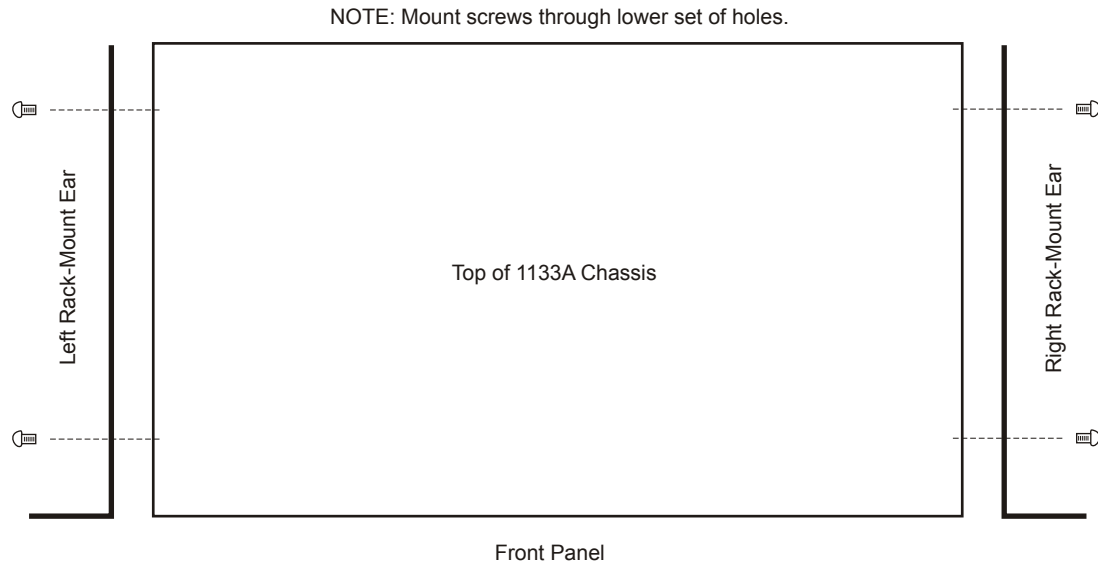

Figure 1.2: Attaching Rack-Mount Ears
2. With the ear facing out from the front panel (see Figure 1.2), match the lower set of holes of the ear to the cover/chassis and remount the M25 screws.